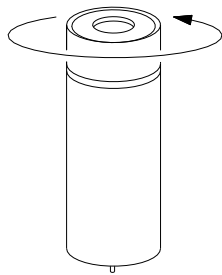
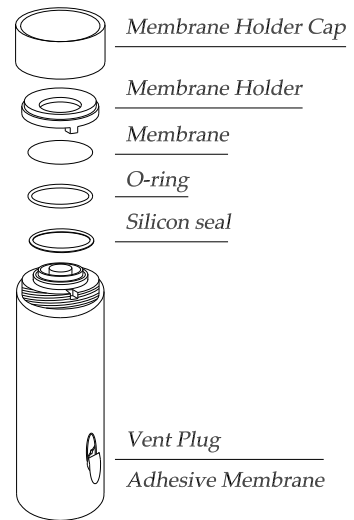
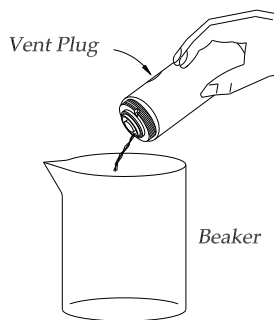

Fig. 5.1.1
Fig. 5.1.2
Fig. 5.1.3a
2. Holding the gas sensor upside down, unscrew the membrane holder cap (fig. 5.1.1 / fig.5.1.2). Remove and dispose the O-ring and membrane. Allow the electrolyte to drain out. If the electrolyte does not drain readily, remove the adhesive membrane covering the vent plug’s pressure equalising hole and unscrew the vent plug (fig. 5.1.3a & 3b)